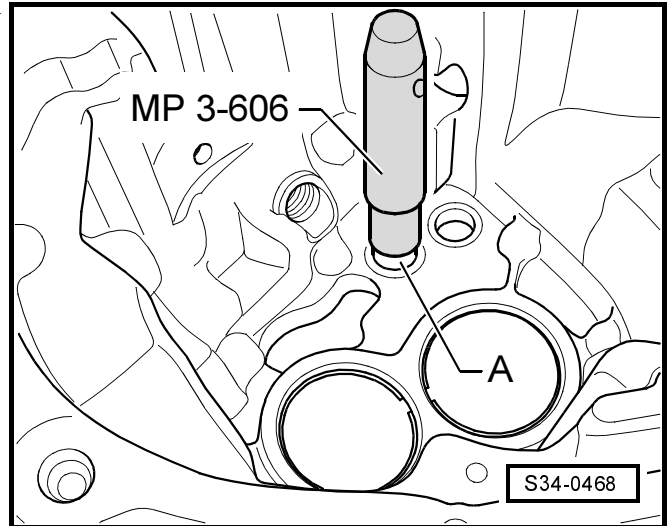

Fig. 4: Levering out the bushing with a screwdriver
- for left gasket ring ⇒ item 17 in **34-10** page 2
- removing ⇒ Fig. 4 in **34-10** page 3